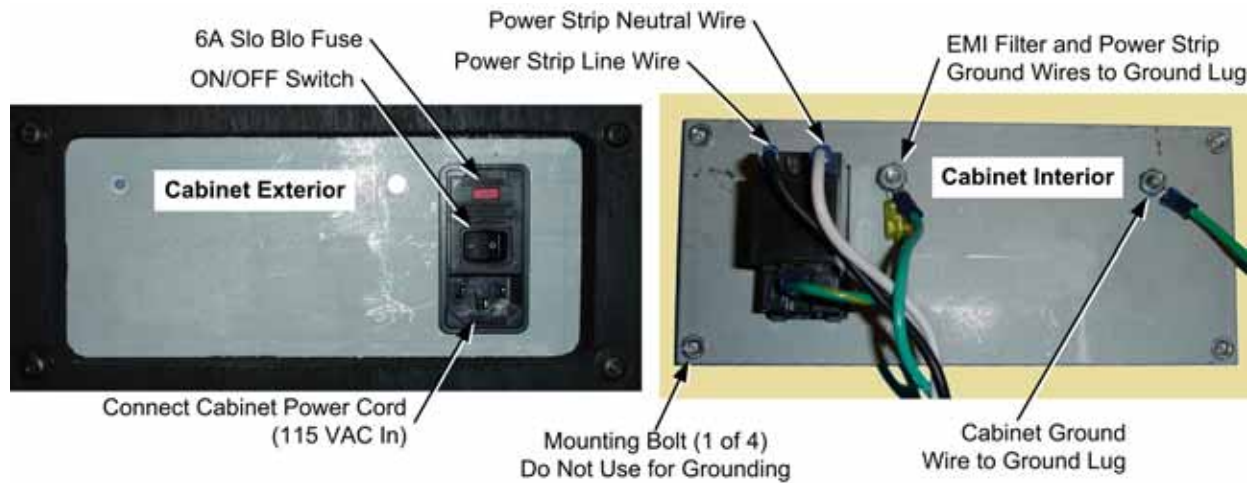

Figure 14. AC Power Plate (Shown Without Labels)
The AC power strip provides power to all of the components in the cabinet. If the cabinet has no power, check the 6A Slo Blo fuse in the power plate (see Figure 14) and replace if blown. Perform the following steps to replace the power strip:
3. Disconnect the power strip from the AC power plate terminals shown in Figure 14.